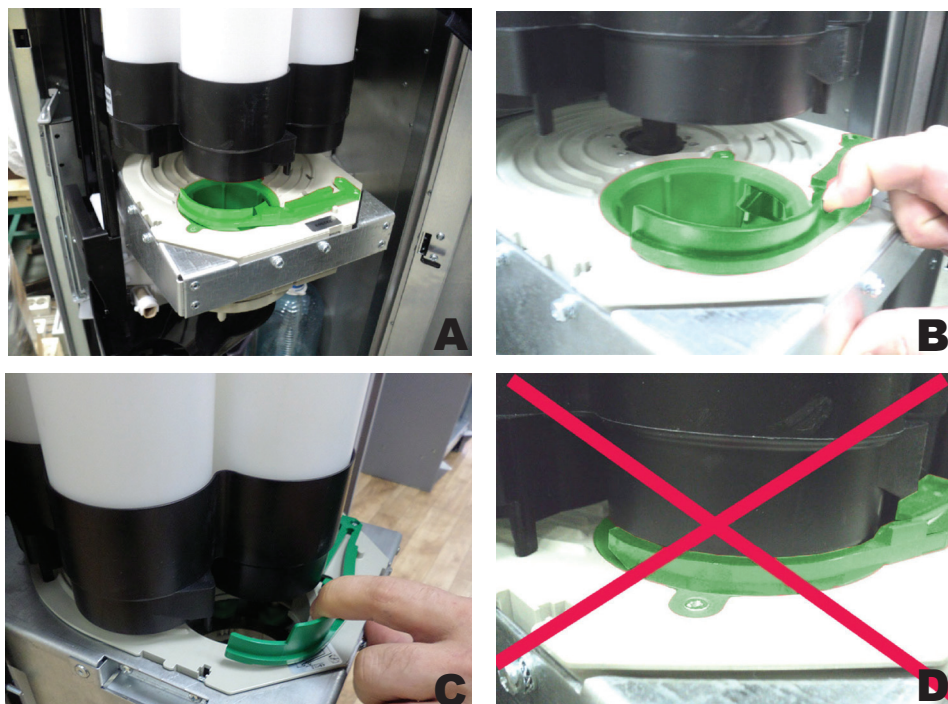

Fig.6.6 - Tubes installation
- Install the tubes (fig.6.6 c);